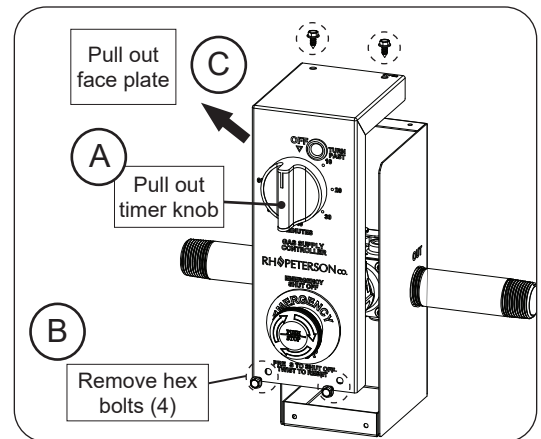

Fig. 4-1 Remove face plate
1. Unscrew the  $\frac{3}{32}$ " set screw (found on left side of knob stem) then pull out the timer knob and set aside. See Fig. 4-1, A.
2. Using a  $\frac{1}{4}$ " socket driver or wrench, remove the four hex bolts from the top and bottom of the control (Fig. 4-1, B).
3. Pull the face plate outward as shown in Fig. 4-1, C.